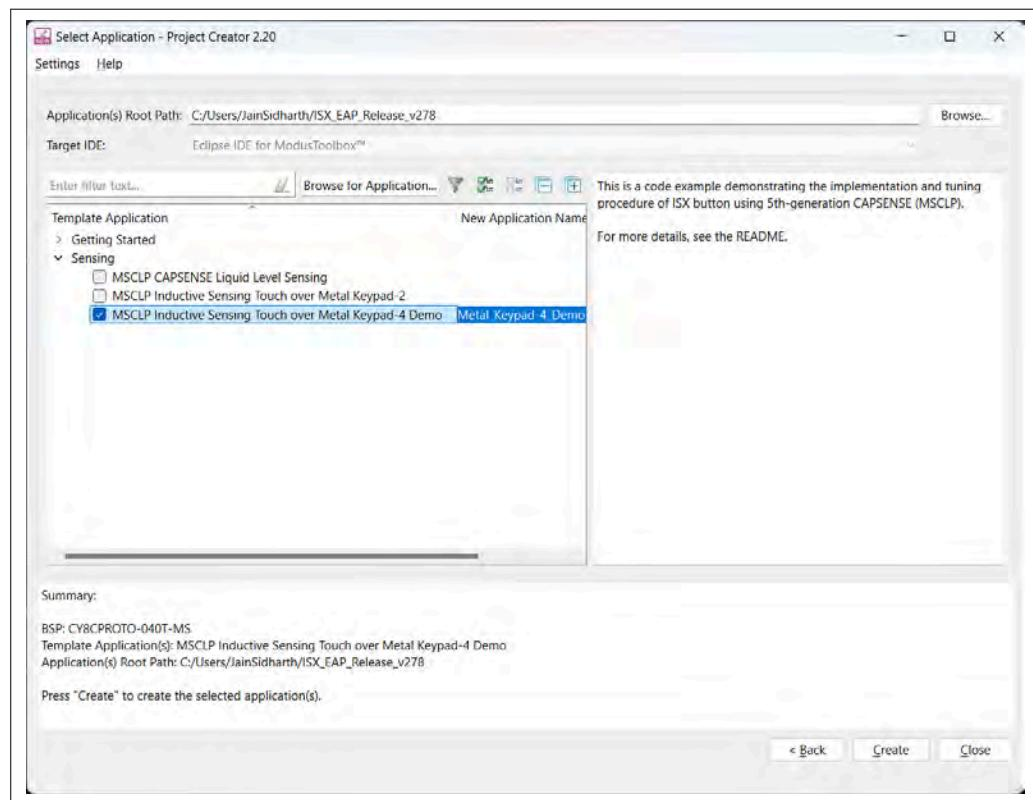

Figure 16 Creating a new application: Select Application
- d.** Select the required application and click **Create**, as shown in Figure 16. The right pane will display the code example description and provide a link to view the README file on GitHub